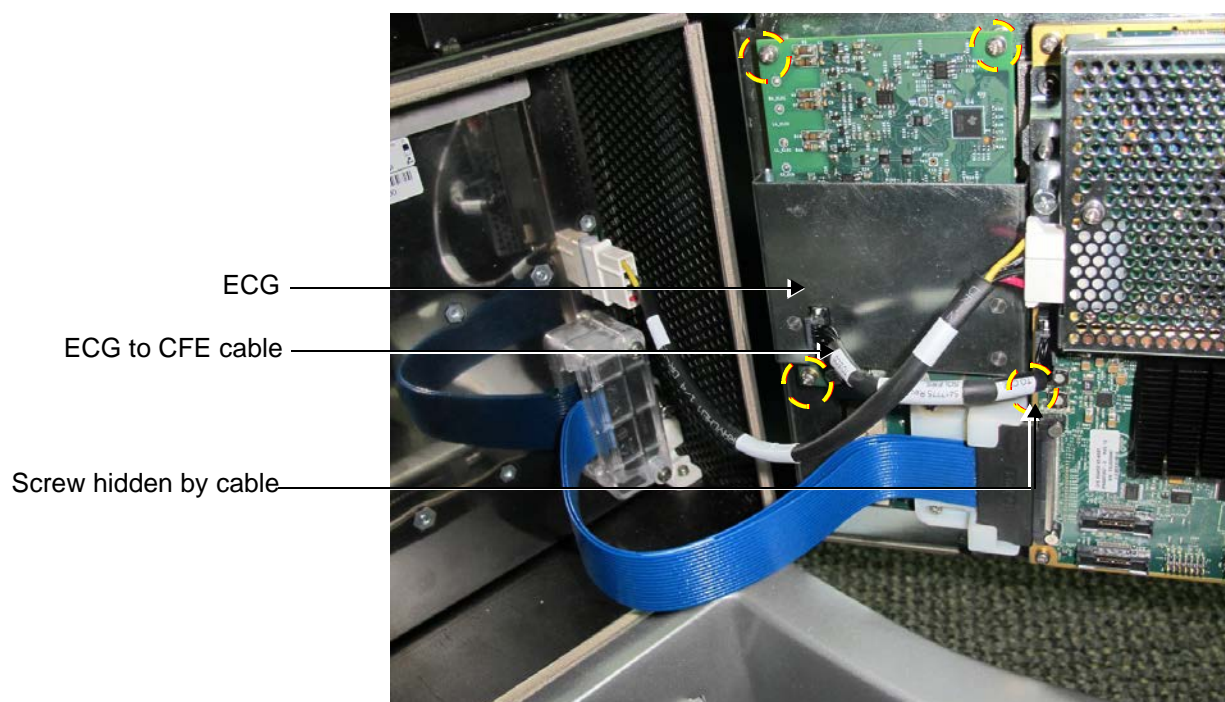

Figure 8-130 Location of ECG/Respiratory Module Assembly
NOTE: The location of the ECG/Respiratory Module Assembly is shown in Figure 8-130.
- 3) Disconnect the ECG-to-CFE cable - Figure 8-130.
- 4.) Loosen and remove the four screws that secure the ECG/Respiratory Module to the PSB board, as indicated in Figure 8-130.
- 1) Position the ECG/Respiratory Module assembly in the Front End door assembly as shown in Figure 8-130 and Figure 8-131.